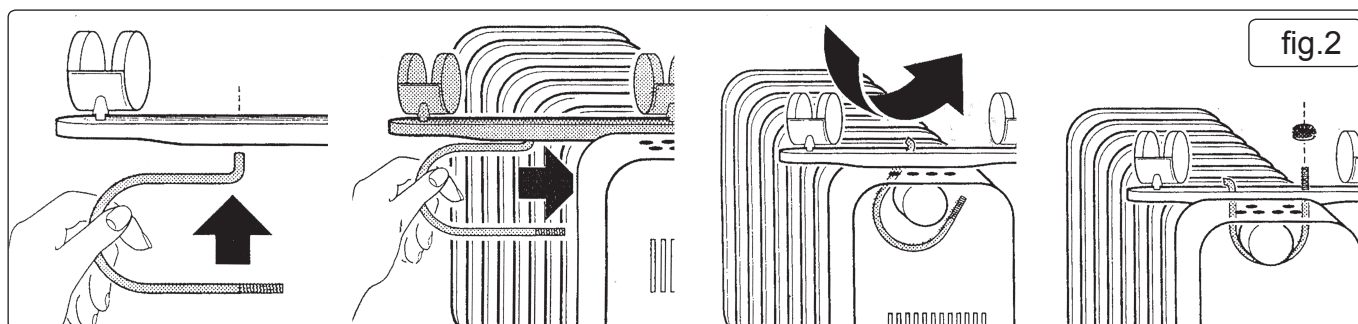

fig.2
- 4.2. Attach the castor wheels by passing the stud through the underside of the wheel plate and securing with the supplied nut. Mount the castor wheel plate between the first and second element of each end of the radiator. Tighten the wing nuts on the metal "U" bolts; return the radiator to the upright position; oil should be heard flowing internally under gravity and your heater is ready to use when the flowing ceases fig.2.